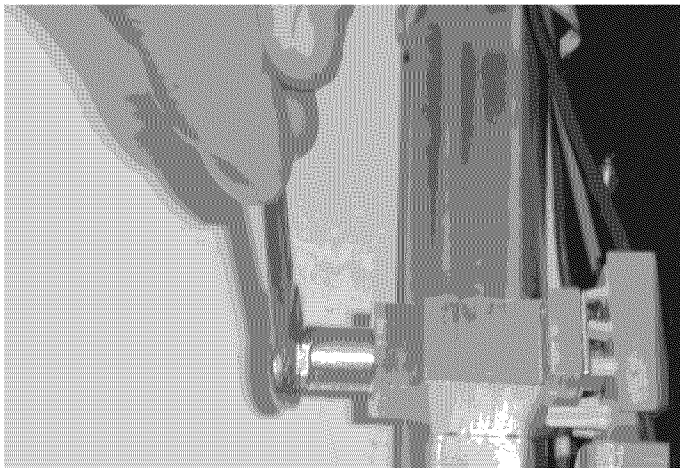

Fig. 3
- Using a 10mm nutdriver (or 10mm open-end wrench) remove the 4 brass Natural Gas orifices from the ends of the surface burner valves (See Fig. 3).